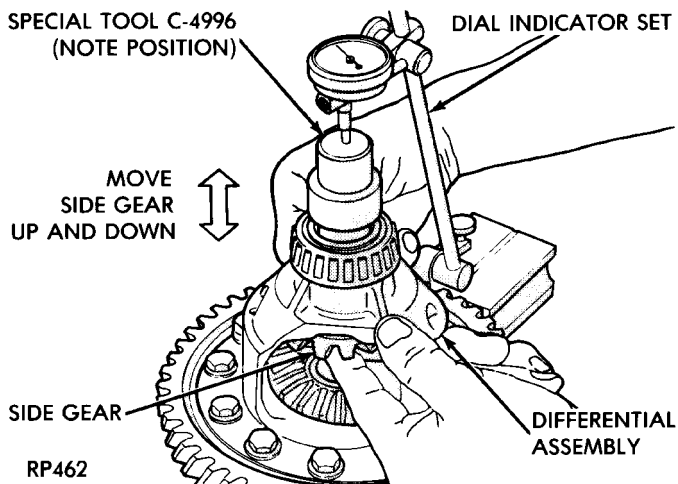

Fig. 115 Checking Side Gear End Play (Typical)
(4) Rotate the assembly two full revolutions both clockwise and counterclockwise.
(5) Set up dial indicator as shown and record end play (Fig. 115) (Fig. 116). Rotate side gear 90 degrees and record another end play. Again, rotate side gear 90 degrees and record a final end play.
(6) Using the smallest end play recorded, shim that side gear to within 0.001 to 0.013 inch. The other side gear should be checked using the same procedure.